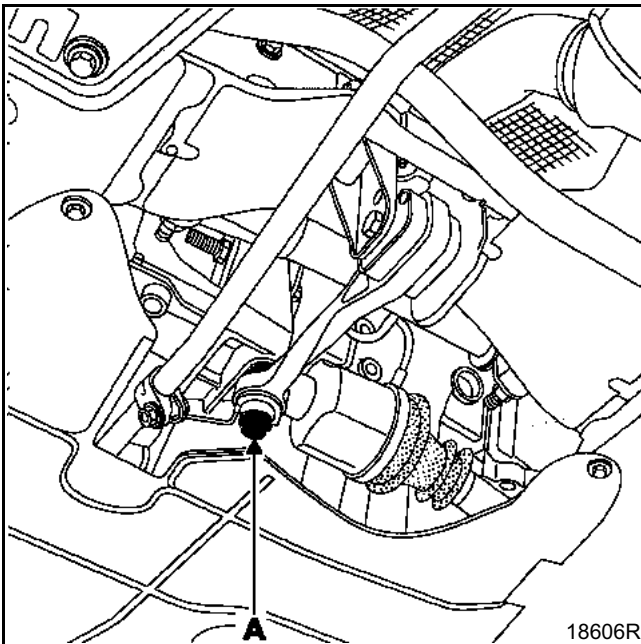

Fig. 1
- Insufficient tightening of torque reaction arm bolt (A in Fig. 1) on gearbox side.